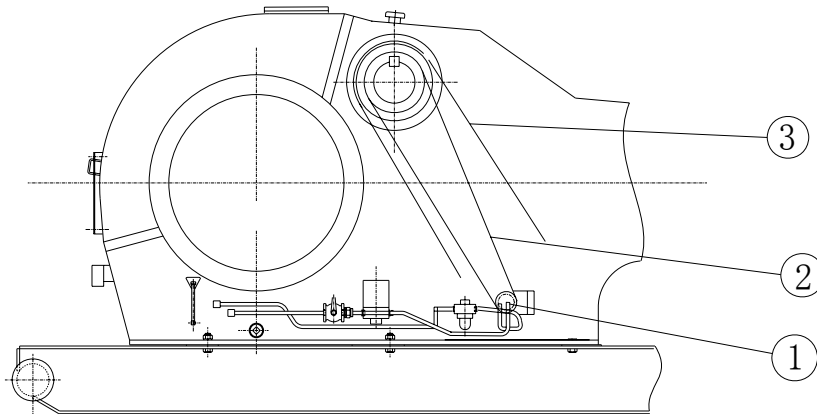

Fig. 22 Outside mounted oil pump
(1) Oil pump (2) V-belt (3) Guard
A typical outside mounted oil pump is shown in Fig. 22. The oil pump (1) is piped into the oil system through the suction and discharge joints at the bottom of power end left/right wall plates. Do not adjust V-belt drive (2) too tight. Over tightening can cause premature failure of the pump. To prevent possible injury, always install guard (3) over V-belts before putting pump into service.